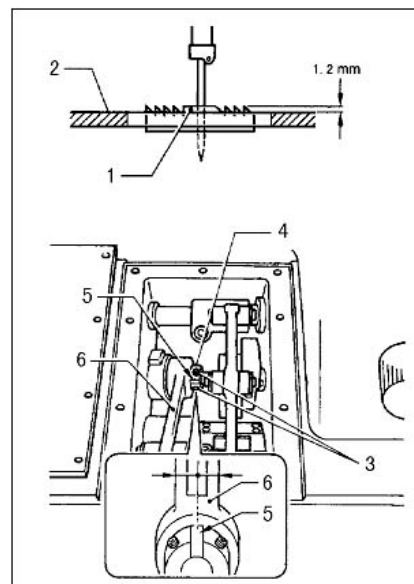

Fig.29
(2) Vertical feed direction (shown by Fig.29)